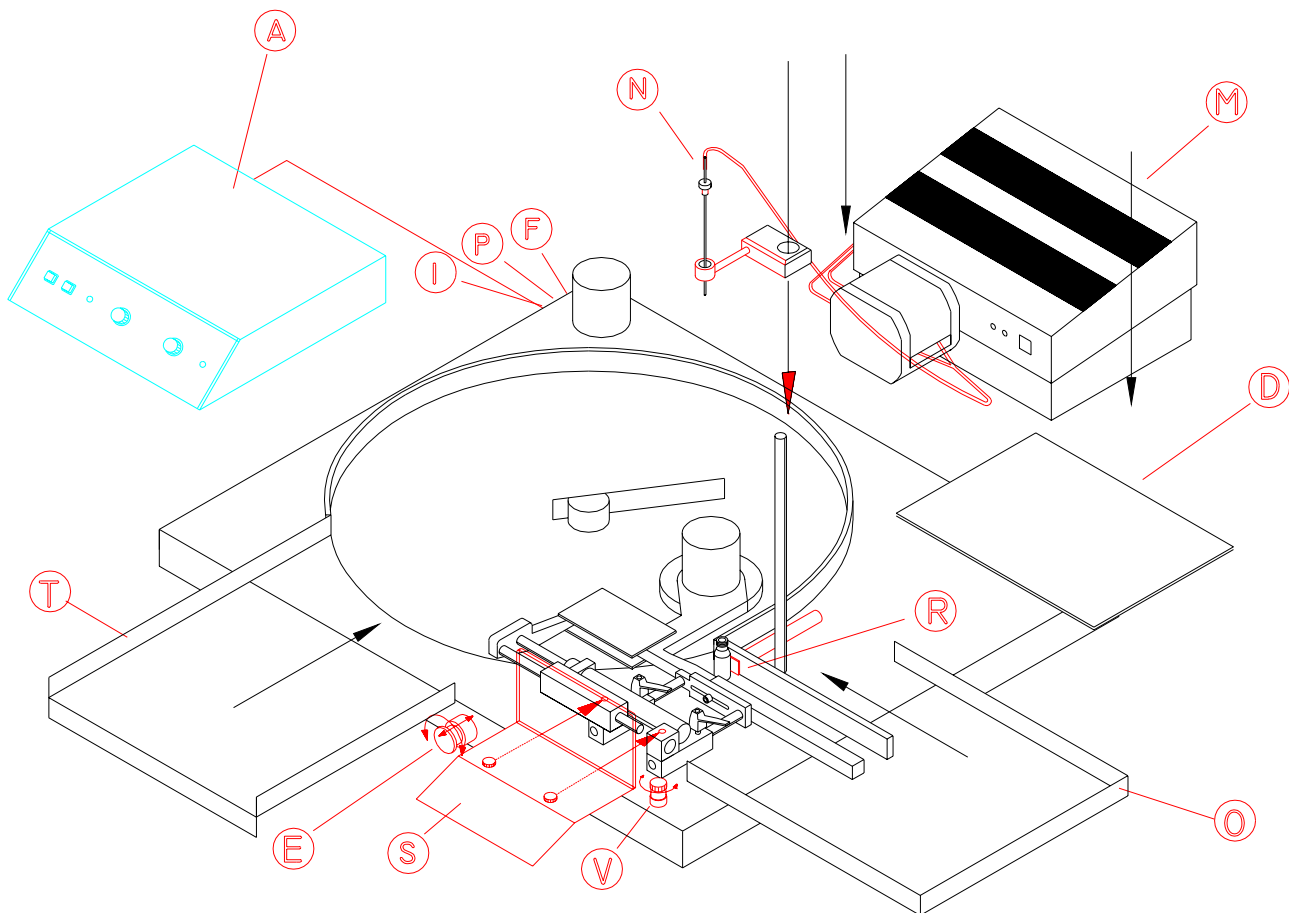

Fig. 1
The mains switch and pneumatic emergency stop (E in fig. 1) is used for emergency stopping.
The cover (S in Fig. 1) should be mounted when operating the FlexFeed 20.
Remove the cover plate (S) Fig. 1 via the two black finger screws.
Attach the inlet tray (T) Fig. 1 by Allen screws in the four holes in the frame.
Attach the outlet tray (O) Fig. 1 by Allen screws in the four holes in the frame.
If using a dumping needle, the air supply for this can be taken from the outlet (D) in fig. 1.
Place a bottle in the filling positioning piece (H) and loosen the Allen screw on the bottle feeder (P). Push the bottle feeder piston rod all the way in and adjust the bottle feeder so that it is at a distance of about 1 mm from the bottle in the filling area (H). An external throttle valve (V in Fig. 1) controls the speed of bottle feeder (P).
Put the cover plate back in place, make sure the bottle feeder is still all the way to left and then reactivate the compressed air by releasing the emergency stop (E in Fig. 1).